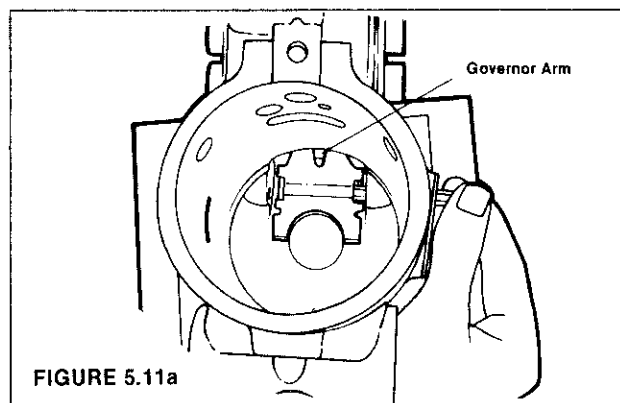

FIGURE 5.11a
STEP 11 Place the governor arm in position in the housing (Figure 5.11a).